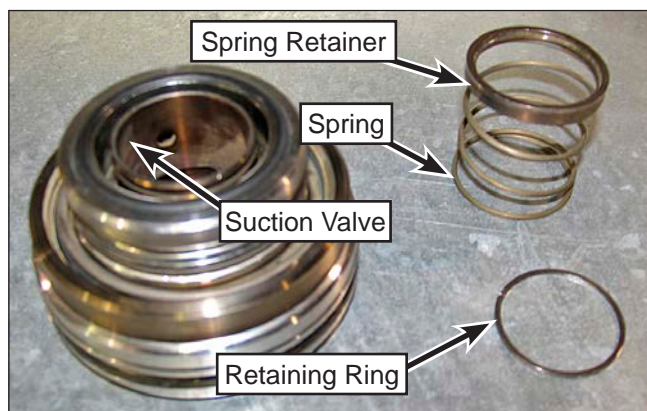

Figure 79: Suction Valve Installation.
3. Position the suction valve in the valve body (Figure 79).